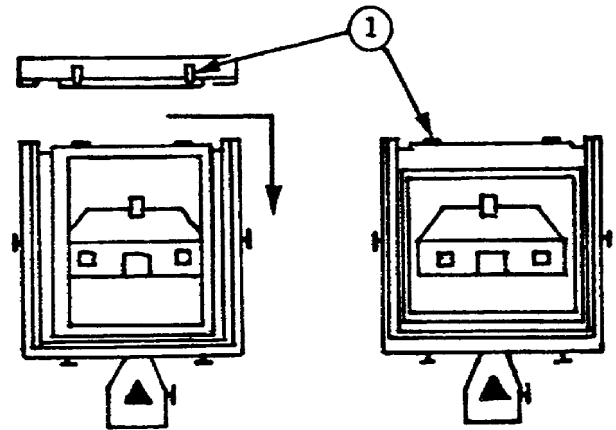

Figure 1-41. Ground Glass Clips.
(6) Changes in the orientation of the subject, with respect to the long and short dimensions of the film, may be made by rotating the camera back. Rotation of the back also permits more advantageous use of the film area when photographing long narrow subjects. The back can be rotated in either direction and locked in place. Rotate the back as follows:
(a) Lift the two ground glass clips ①, (fig 1-41), up to let free the two tips on the ground glass frame.